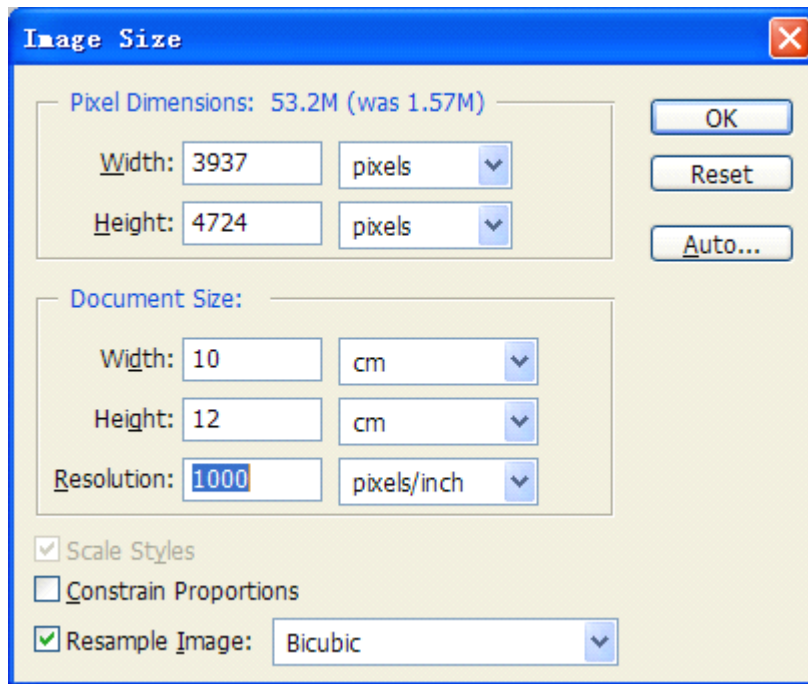

figure 5-3
- 2、 In the column Document Size/ Height and Width, input the value you wanted, figure 5-3 followed;
Such as figure 5-3: the converted graph size is 10cm*12cm, the resolution is 1000 pixels per inch;